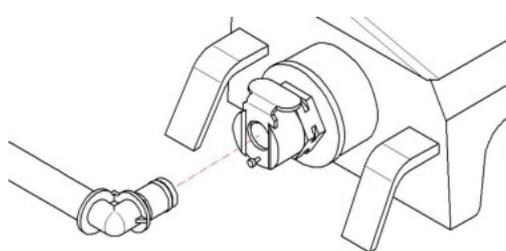

Fig. 1
Do not forget to **connect the water pipe** by pressing it until you hear a “click” (Fig. 1).
- To bleed the circuit, do not mount the plaster tank yet. Mount the small tank filled with water and make sure you have connected the water pipe by pressing until you hear the “click” (Fig. 1).